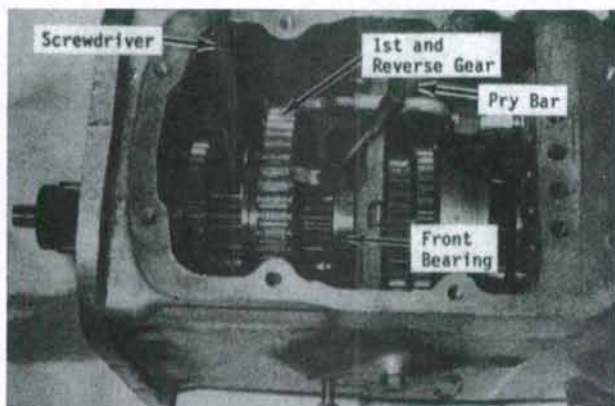

Fig. 149—Pry mainshaft rearward to free front bearing from housing bore.
152. To remove mainshaft (14—Fig. 148) and sliding gears, first remove planetary unit as outlined in paragraph 151 and shifter rails and forks as outlined in paragraph 150. Move low speed sliding gear (13) forward until groove in mainshaft splines is exposed. Insert a large blade screwdriver into the groove to hold gear in position, then insert a pry bar between front of gear and transmission housing wall as shown in Fig. 149. Pry shaft rearward until front bearing